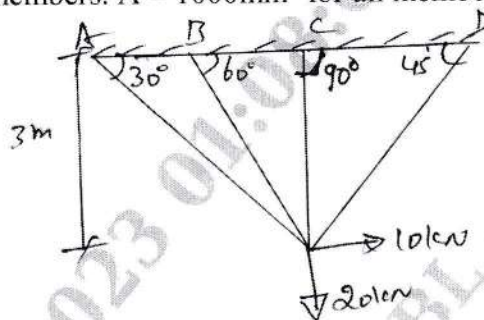

Fig.Q.8
- 8 A pin jointed frame consists of four members connected as shown in Fig.Q.8. Compute the forces in members using matrix stiffness method. Adopt transformation approach. Take  $E = 2 \times 10^5 \text{ N/mm}^2$  for all members.  $A = 1000 \text{ mm}^2$  for all members.